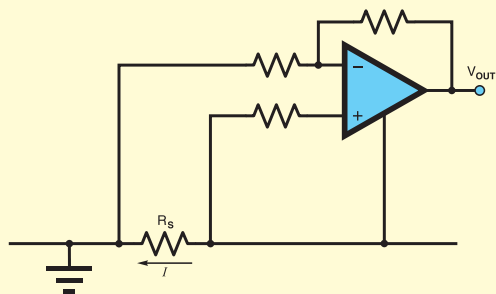

Fig.6: in this configuration the op amp must have an input voltage range that extends below its negative supply voltage
- A relay is connected to OUT1, as shown in Fig.6(a) – last month. The relay controls a pump motor.
op amp's supply pins are the 'wrong' side of the sense resistor. This is illustrated in Fig.6 in which the op amp's common-mode input range must extend below zero by V_S . This capability is rarer than rail-to-rail common mode range, but is a further advantage of the MAX4198 which has an input voltage range which extends 100mV beyond the supply rails.